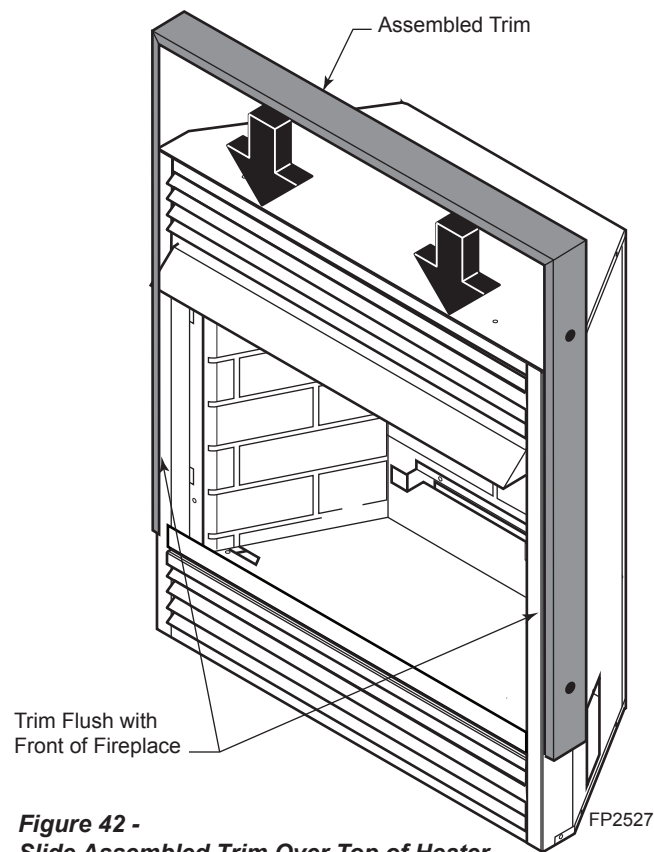

Figure 42 -
- Slide assembled trim over the top and down the sides of the fireplace. Flush trim with front of fireplace as shown in *Figure 42*.